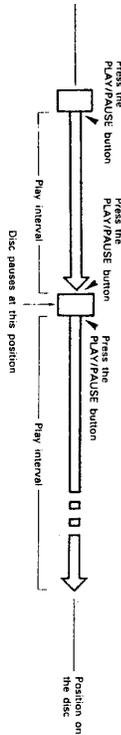

Figure 14
- The steps through which disc play is performed when the PLAY/PAUSE and STDBY/CUE buttons are pressed are described with the aid of the following illustrations in Figures 14 through 16.
Pressing the PLAY/PAUSE button starts the disc play, the advancement of which is illustrated by the arrow of Figure 14. Pressing the PLAY/PAUSE button again during disc play causes the play operation to pause, and pressing this button once more causes the disc to be played again.